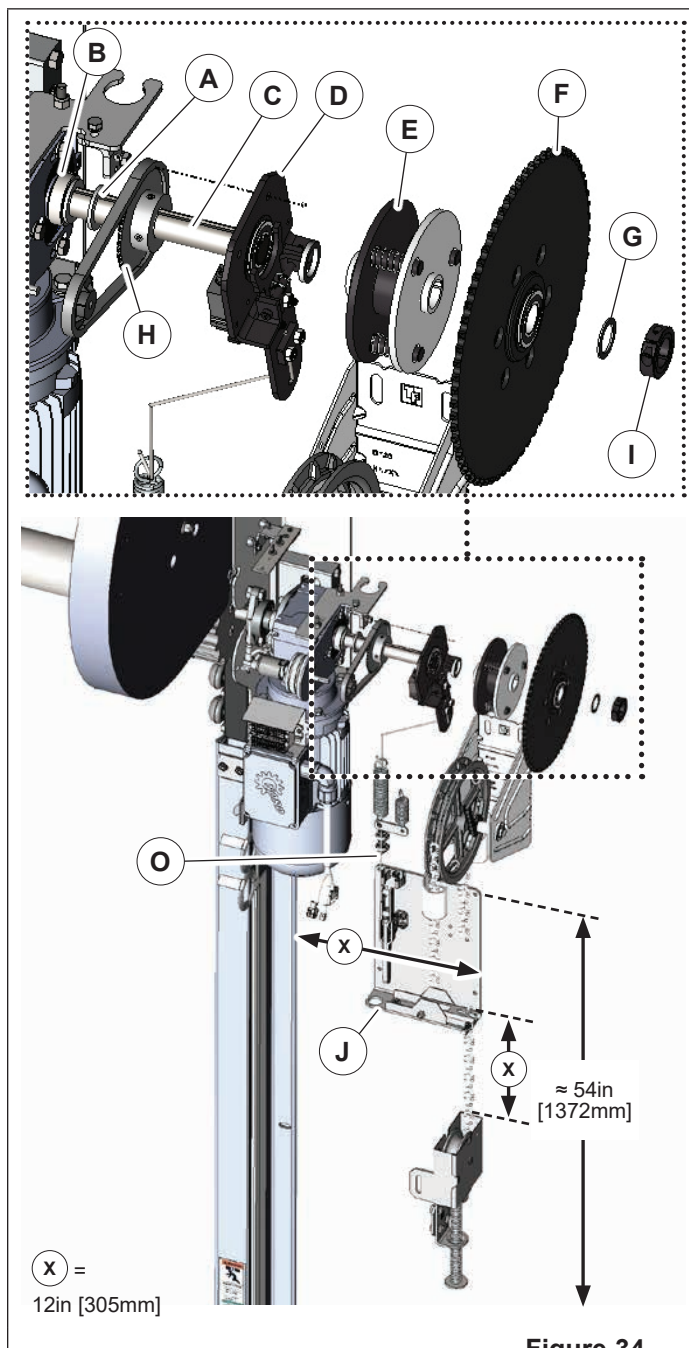
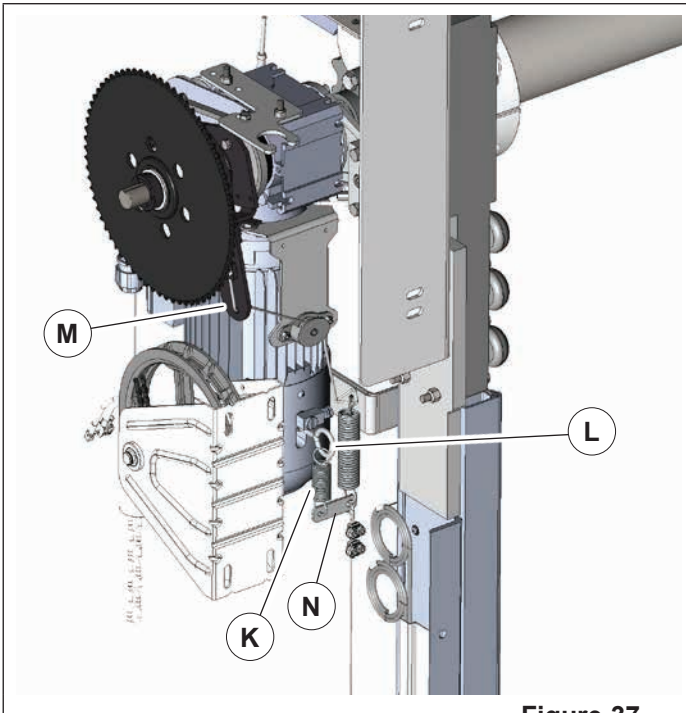

Figure 34
Figure 37
- The fault switch must be moved to the opposite side of the engagement arm bracket (D).
- Remove the hand lever/chain blocker assembly (J) and rotate to opposite side of bracket.
- Install 1/8in [3mm] spacer (A) on the outside of the lock collar (B).
- Install encoder sprocket (H) with hub pointing away from the gearbox (Figure 34).
- Install proper spacer (C) (according to door model) onto shaft next to the encoder sprocket. Spacers are shipped cable tied to the motor assembly.
9. Attach the smaller of the 2 springs (K) to the brake release eye bolt (L) (Figure 37). Smaller spring should be toward the outside.
10. Route the short cable (M) through the pulley, then through the hole in the bottom of the engagement arm bracket and clamp it behind the pressure plate. The spring plate (N) should sit level when hanging without the hand lever engaged (Figure 37).
15. Mount the hand lever/chain blocker assembly (J) at a convenient height off the floor, ≈ 54 in [1372mm] to top of plate so the hand lever is easily accessed. Align with brake hand lever and chain hoist, ≈ 11 -12in [305mm] from lower track to outside mounting holes. Use fasteners suitable to hold unit to the wall (Figure 34).
18. Route the longer cable (O) (Figure 34) attached to the hand lever up through the larger hole on the spring plate (N) (Figure 37).